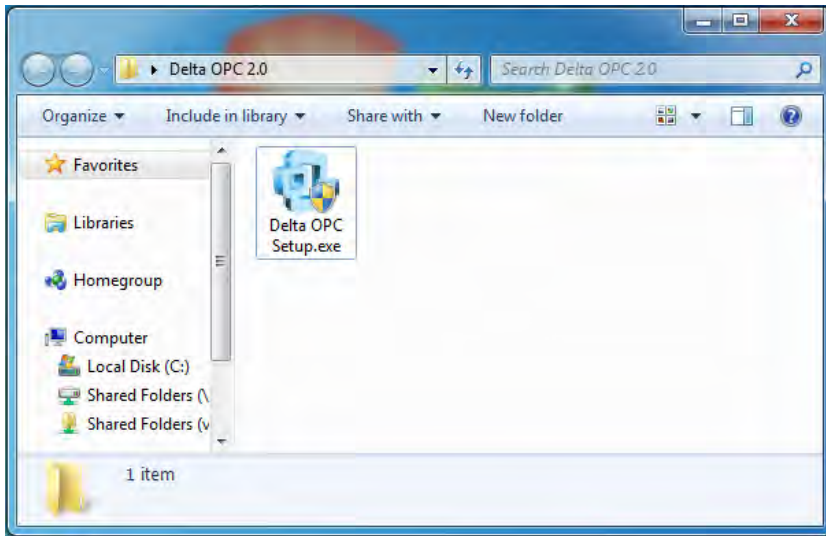

Figure 1-1 Installing Delta OPC
- (1) Users can download the latest Delta OPC from the Delta official website (<http://www.deltaww.com/>). Delta OPC can be installed only after it is decompressed. The contents of the folder which is decompressed are as shown in figure 1-1. If an old version of Delta OPC has been installed on a computer, the users have to uninstall it before installing a new version of Delta OPC. (Please refer to section 1.2.3 for more information about uninstalling